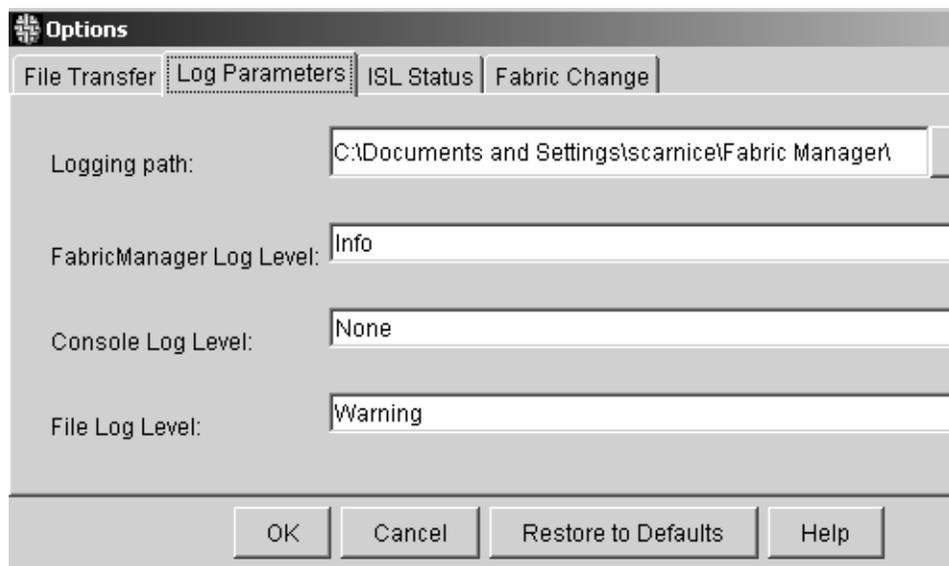

Figure 11: Log Parameters tab of the Options dialog box
2. Click **Log Parameters** tab. The **Log Parameters** tab displays, as shown in Figure 11.